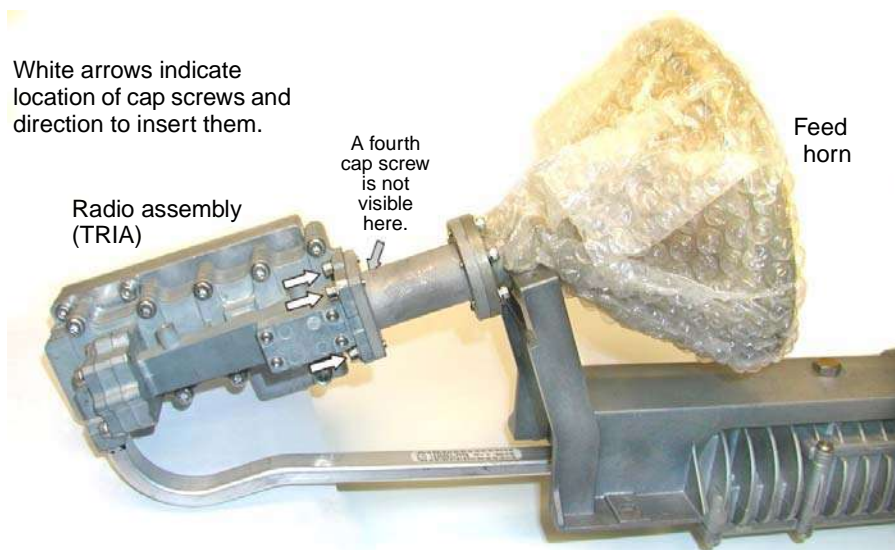

Figure 30: Attaching the waveguide transition to the TRIA
3. Place the neck of the feed horn into the upper mounting bracket, and position the square end of the waveguide transition close to the TRIA. See Figure 30.
4. Attach the square end of the waveguide transition to the TRIA using the provided M4  $\times$  12-mm socket-head cap screws and M4 lock washers with teeth on the inner edges. (See Figure 30.)
Insert the screws in the direction indicated by the white arrows in Figure 30.